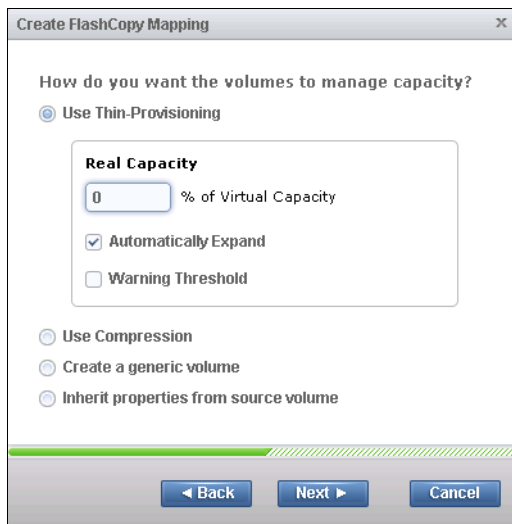

Figure 11-20 Create a thin provisioned target volume
4. You are prompted to select how you want to manage volume capacity. The default choice is **Create a generic volume**. If you select a thin-provisioned or compressed volume, more options are available (Figure 11-20).